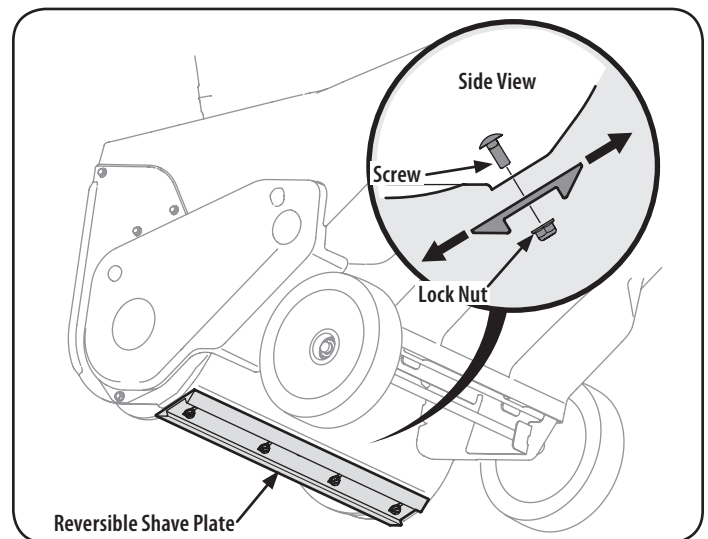

Figure 1
3. Loosen the four flange lock nuts and carriage screws which secure the shave plate to the housing. See Figure 1. Move the shave plate to the appropriate position and retighten the nuts and screws securely.
3. Remove the four carriage bolts and flange lock nuts which attach it to the snow blower housing. Refer to Figure 1 on page 12.